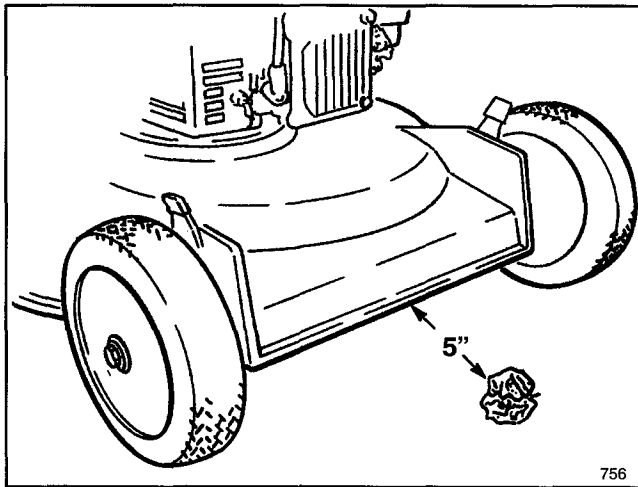

Figure 10
4. Take a half sheet of newspaper and crumple it into a ball small enough to go under deck (approx. three inches in diameter) (Fig. 10).
5. Place ball of newspaper five inches in front of mower (Fig. 10).